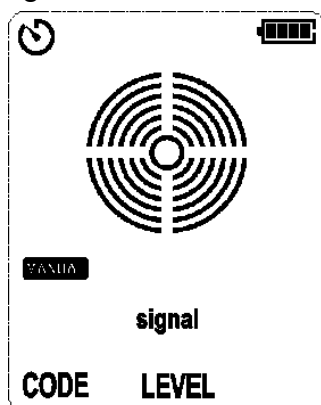

Figure 7.1.4a No Signal Detected
1. Short press the "AUTO/MANUAL" (mode) button and then the LCD shows "MANUAL", as shown in Figure 7.1.4a.
3. To obtain a best effect when tracking energized conductor, please align the dot screen printing (on the top of the sensor) to the direction of the conductor, as shown in Figures 7.1.4a and 7.1.4b. If not aligned properly, signal may not be detected or the code may be wrong. To check the direction of the cable, please rotate the receiver for 90 degrees regularly. The signal strength reaches its maximum when the cable is aligned with the dot screen printing. According to the differences of detected signals, the receiver automatically detects if the cable is energized (“⚡”), which will be displayed on the LCD. No need to perform manual setting.